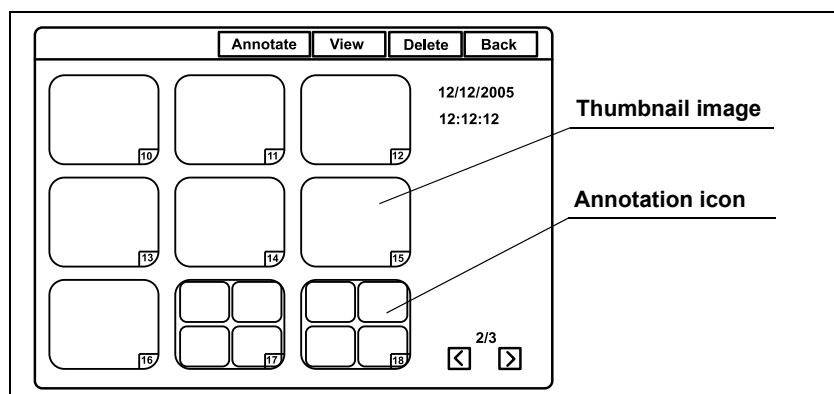

Figure 5.62
4. Click “Load” or press the “Enter” key. The message “Please wait” is displayed on the monitor, then the thumbnail screen appears (see Figure 5.62). The thumbnail-sized images for the annotation image is not an image but an icon.